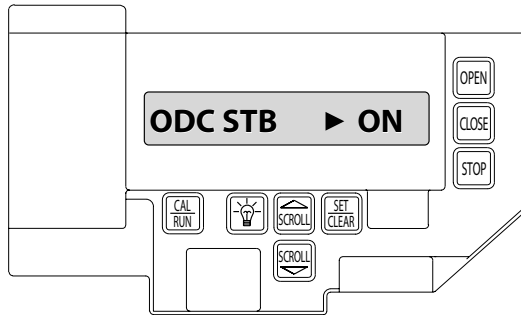

Fig. 9
- 1) Press SET/CLEAR key to toggle to "ODC STB > ON". Fig. 9